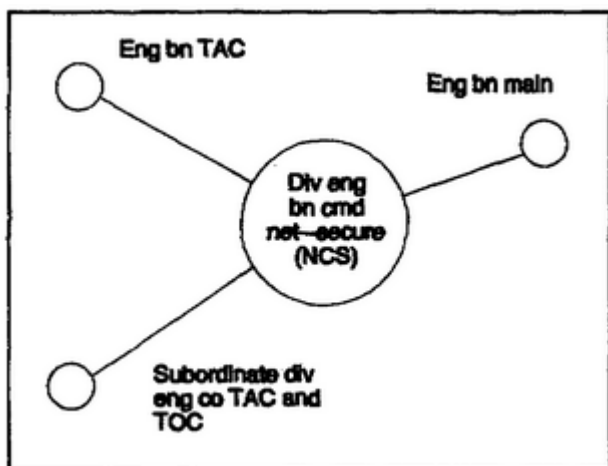

Figure 3-5. Division engineer battalion command net-secure.
- (a) Division engineer battalion command net-secure (three each division) (Figure 3-5, page 3-10).